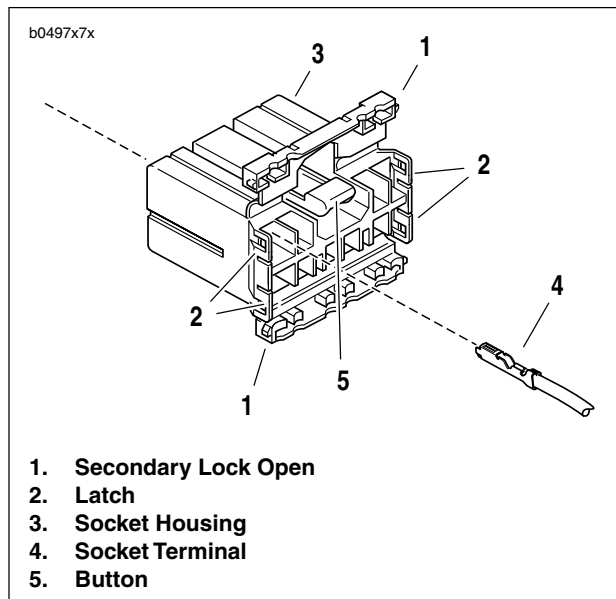

Figure 7-77. Socket Housing
2. See Figure 7-77. Depress the button (5) on the socket housing (3).